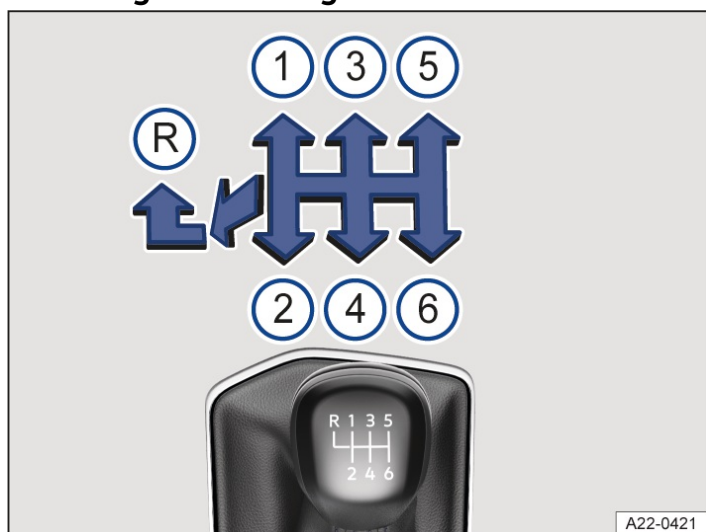

Fig. 1 Gear shift pattern of a 6-speed manual gearbox. Depending on the equipment level, your vehicle may have a 5-speed manual gearbox.
2. Move the gear lever to the required position → Fig. 1 ¹.
3. Push the gear lever fully to the left and then forwards into the reverse gear position → Fig. 1 ^R.